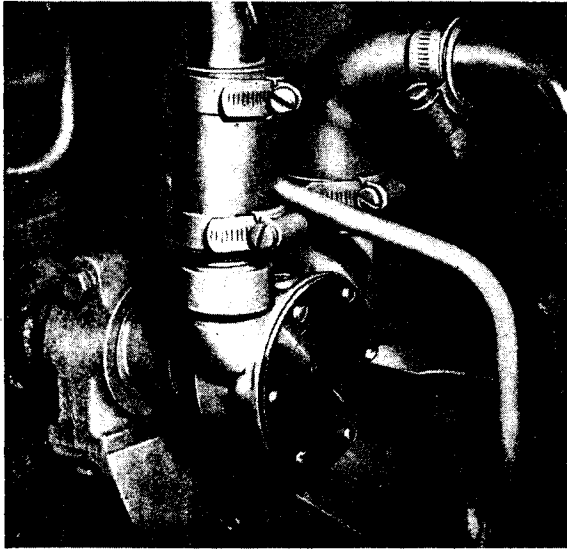

Fig. C.4.
11. Remove end plate from the sea water circulating pump and lubricate the interior of the pump body with MARFAK 2HD grease (see Figs. C.4 and C.5).